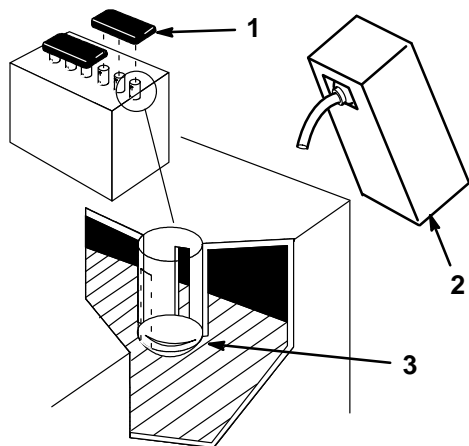

Figure 10
- Remove the filler caps from the battery. Slowly pour electrolyte into each cell until the electrolyte level is up to the lower part of the tube (Fig. 10). Use an electrolyte with a specific gravity of 1.265.
- Slowly pour electrolyte into each cell until the level is once again up to “UPPER” line on the battery case (Fig. 10), then install the filler caps.